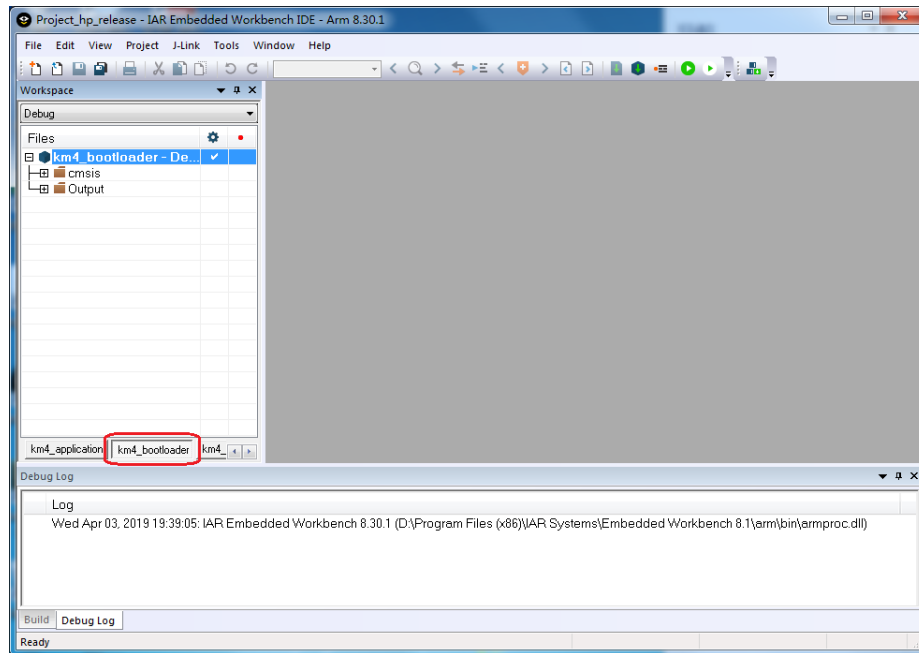
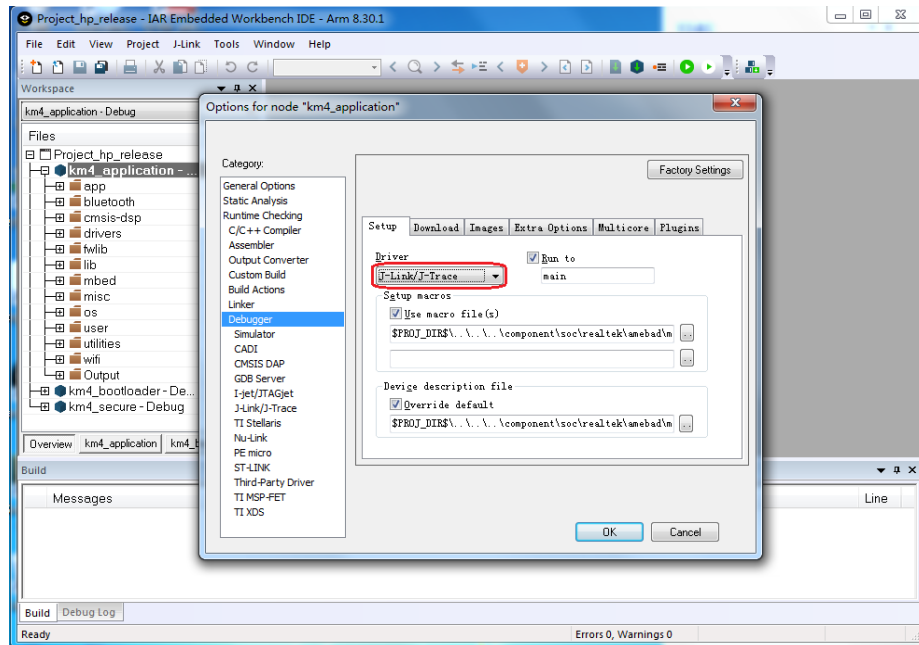

Fig 6-12 Switching to the target project view
Fig 6-13 J-Link debugger setup
- (1) Choose the target project display in Workspace window, for example, km4\_bootloader as Fig 6-12 shows.
- (2) If using J-link debugger, check whether the J-link debugger setting is correct.
- a) Click **Project > Options > Debugger > Setup > Driver**, and choose "J-Link/J-Trace", as Fig 6-13 shows.